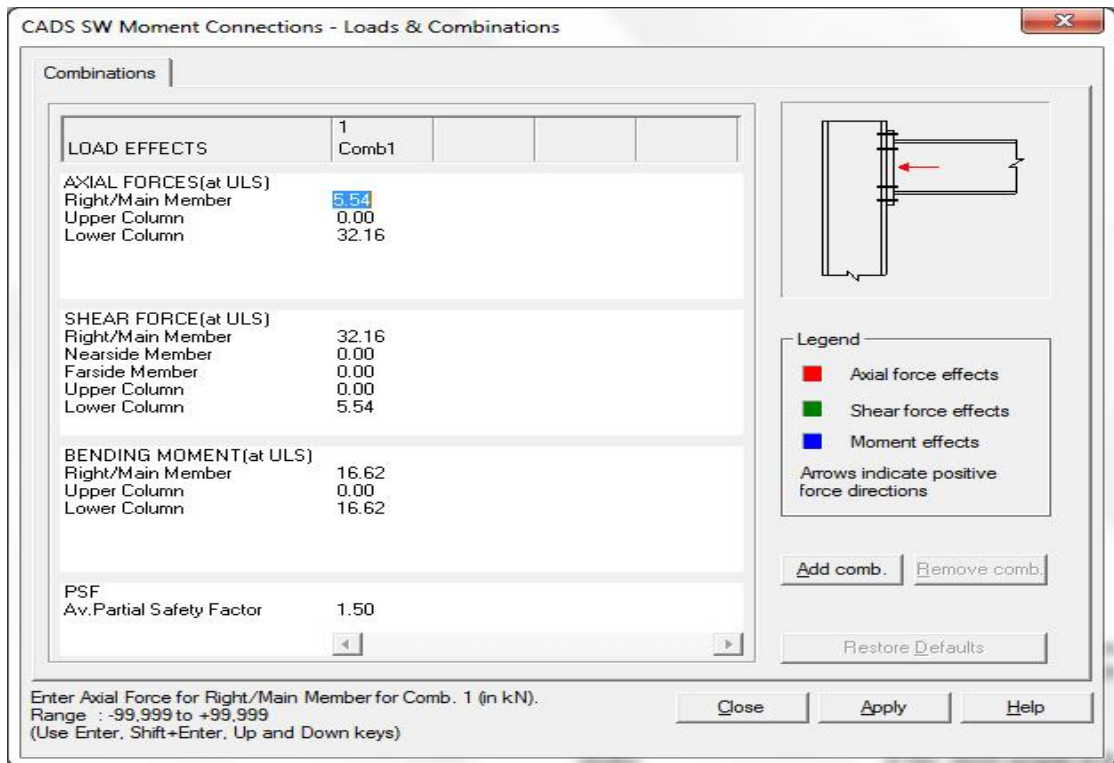
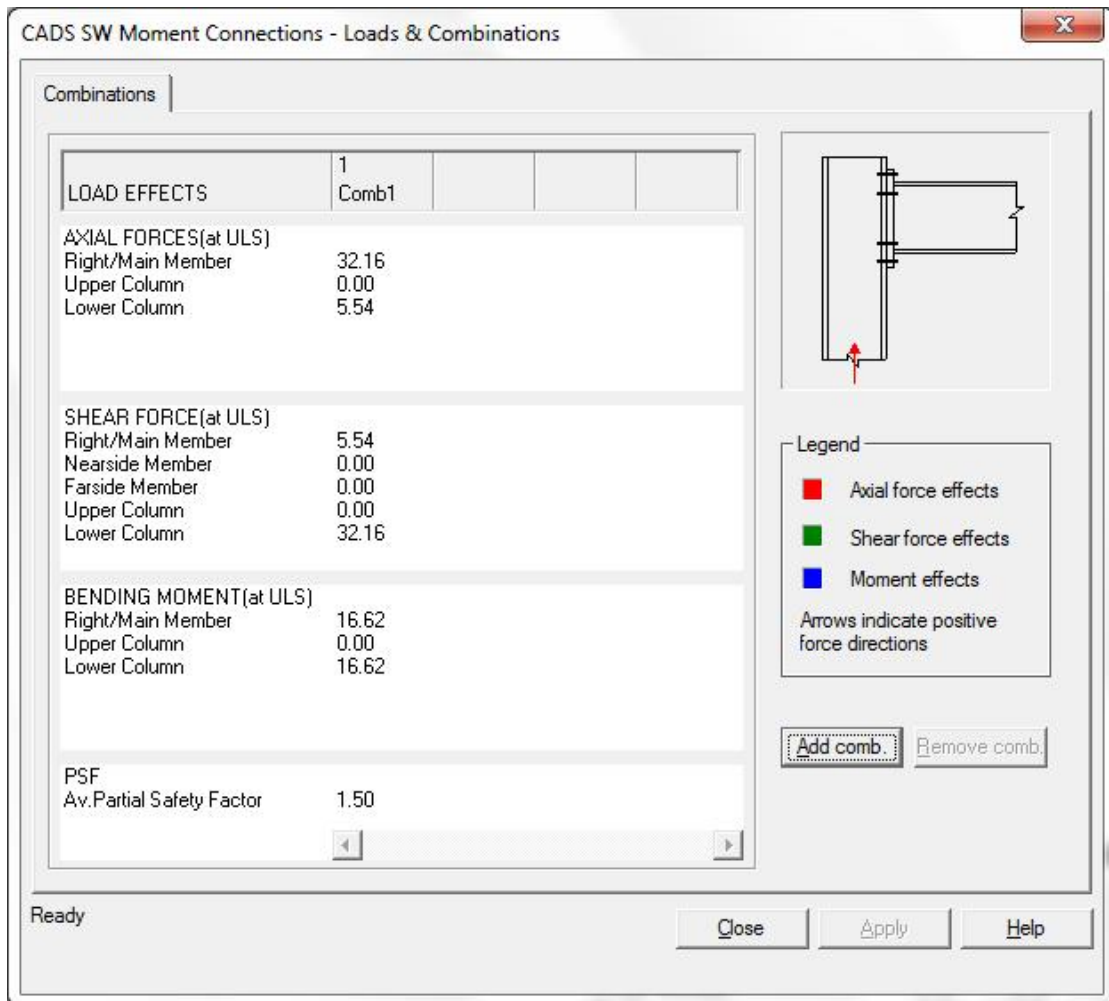

Fig 4.4 Load combination data for default column flange connection.
Fig 4.10 Load combinations input showing force effects for the quasi-column flange connection.
- Open the load combinations input page and enter the force effects from fig 4.4 'mapped' in accordance with the procedure given in section 3 above as illustrated in fig 4.10.